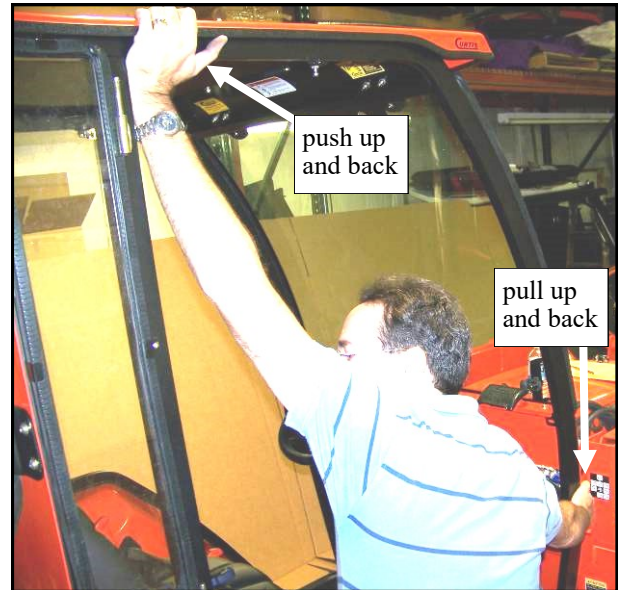
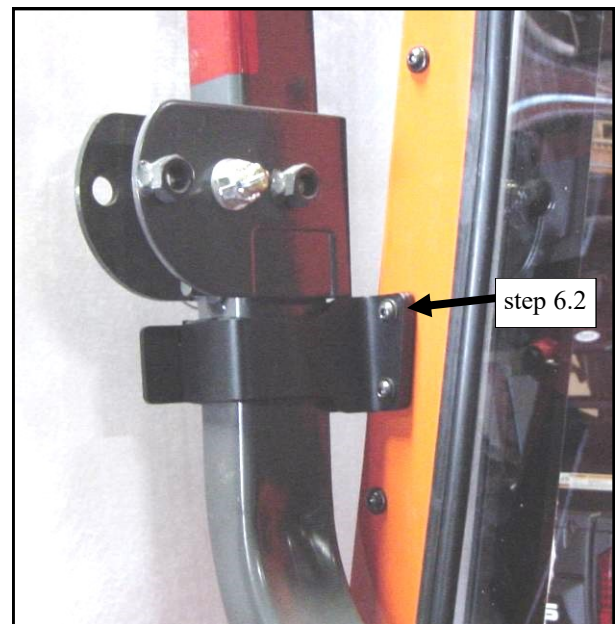

Fig. 6.2 (view of right side of tractor)
Fig. 6.2a (view of left side of tractor)
6.2 See page 17 for left versus right hand parts. If installing a soft sided cab, have an assistant lift up on the back of the side frames (see fig. 6.2) and pull the front back when installing the roll bar brackets. This will keep the cab from sagging towards the back and rotating forward which can create an interference with the loader mounting brackets. Per figure 6.2a, install the lower roll bar brackets using the following hardware per side of the tractor: two 5/16 x 1-1/4" long button head bolts, two steel washers and two flange locknuts. The bolt heads should be towards the front of the vehicle (especially for soft rear curtain applications). Note: the photo shows a hard rear panel in place. A soft sided cab bolts up the same way but with one less thickness of sheet metal to sandwich. Do not tighten the bolts.